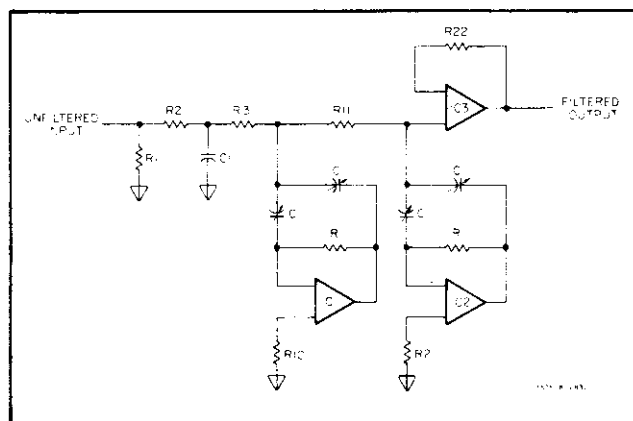

**Figure 4-4. Phase Control Filter Output.**
4-33. The two signals applied to the Exclusive OR gate in the "Q" Phase Detector are A' and Bd'. The output of the Exclusive OR gate (designated P3) is high (1) when A' and Bd' are in opposite states (one high, one low) and low (0) when they are in identical states (both high, both low). The width of the output pulses, therefore, represents the magnitude of the phase difference between the two signals. The Exclusive OR output is applied to a Differential Amplifier which provides the voltage swing required to gate on and gate off the Constant Current Source. The pulsating dc from the Constant Current Source is applied to the Buffer/Integrator which, like the Buffer/Integrator in the Phase Detector, serves as an impedance converter, an inverter and high frequency integrator. The output of the Buffer/Integrator is applied to the Phase Control Filter which detects the average value of the pulse train and provides a dc output voltage proportional to phase magnitude. Figure 4-4 is a graph showing the voltage level vs. phase at the output of the Phase Control Filter. This voltage is applied to a Threshold Detector (A11IC9) which